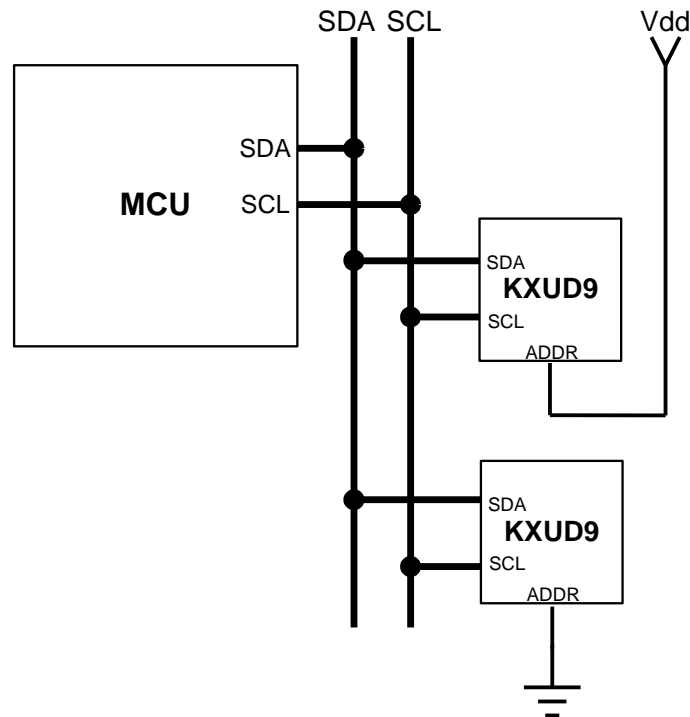

Figure 1 Multiple KXUD9 I2C Connection
The KXUD9 has the ability to communicate on an I2C bus. I2C is primarily used for synchronous serial communication between a Master device and one or more Slave devices. The Master, typically a micro controller, provides the serial clock signal and addresses Slave devices on the bus. The KXUD9 always operates as a Slave device during standard Master-Slave I2C operation as shown in Figure 1 on the following page.
Transactions on the I2C bus begin after the Master transmits a start condition (S), which is defined as a high-to-low transition on the data line while the SCL line is held high. The bus is considered busy after this condition. The next byte of data transmitted after the start condition contains the Slave Address (SAD) in the seven MSBs (Most Significant Bits), and the LSB (Least Significant Bit) tells whether the Master will be receiving data '1' from the Slave or transmitting data '0' to the Slave. When a Slave Address is sent, each device on the bus compares the seven MSBs with its internally-stored address. If they match, the device considers itself addressed by the Master. The KXUD9's Slave Address is comprised of a programmable part and a fixed part, which allows for connection of multiple KXUD9's to the same I2C bus. The Slave Address associated with the KXUD9 is 001100X, where the programmable bit, X, is determined by the assignment of ADDR (pin 8) to GND or Vdd. Figure 1 above shows how two KXUD9's would be implemented on an I2C bus.